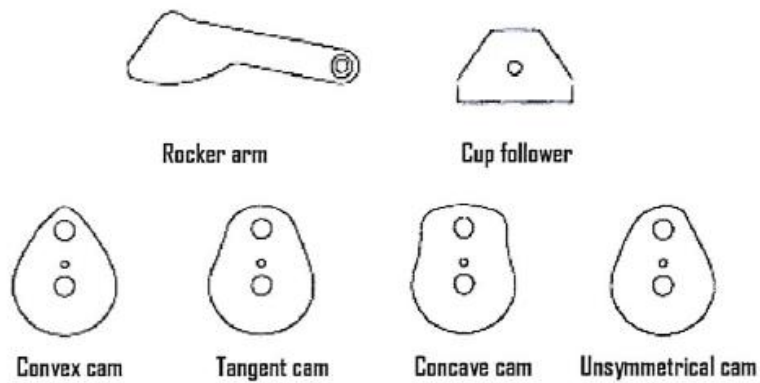

Figure 6.2-2: Detailed description of cam follower mechanism.
- Cam follower mechanism with different cams as shown in Figure 6.2-1 Figure 6.2-2.